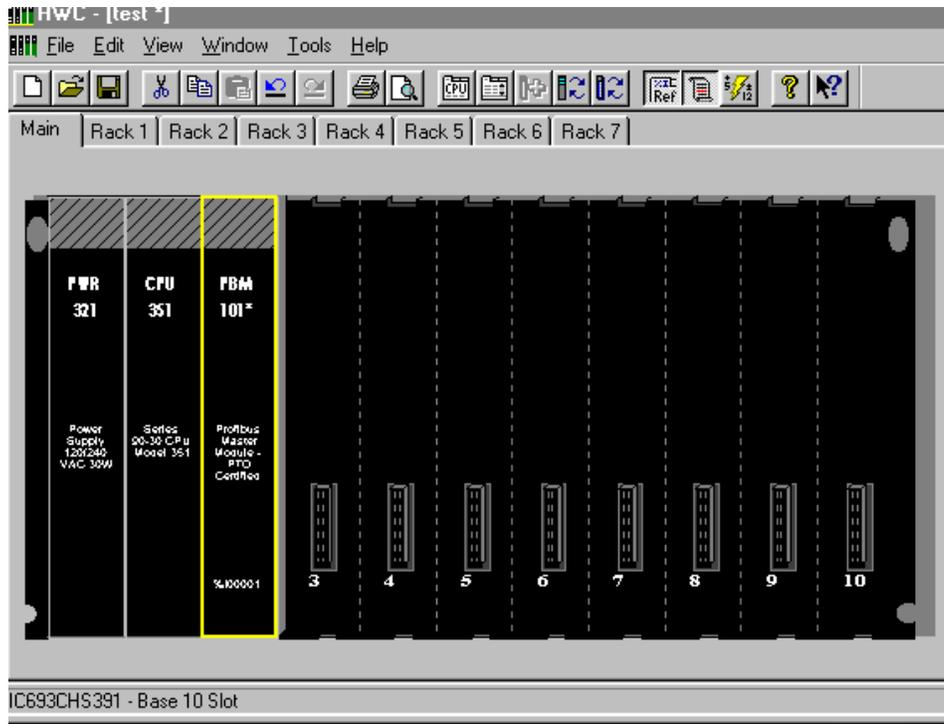

Figure 3.3 – PBM101 Highlighted
- The following screen appears (Figure 3.3). Left-click the slot containing the PBM101.